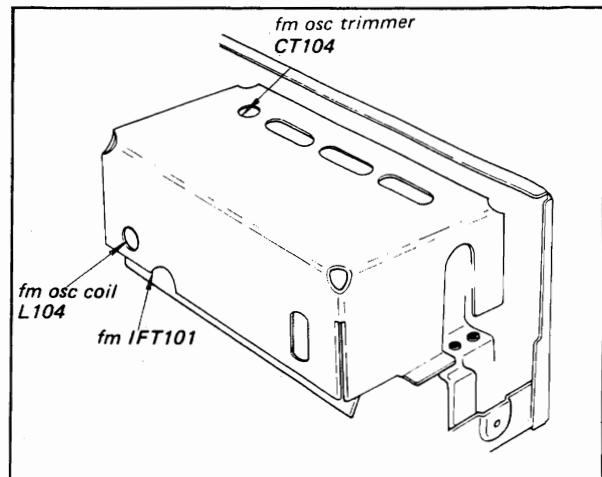

Fig. 3-3. Adjustment parts location
3. Turn the core of fm i-f transformer IFT101 (See Fig. 3-3) and the bottom core (primary side) of discriminator transformer T201 (See Fig. 3-10) to obtain maximum output with the alignment tool.